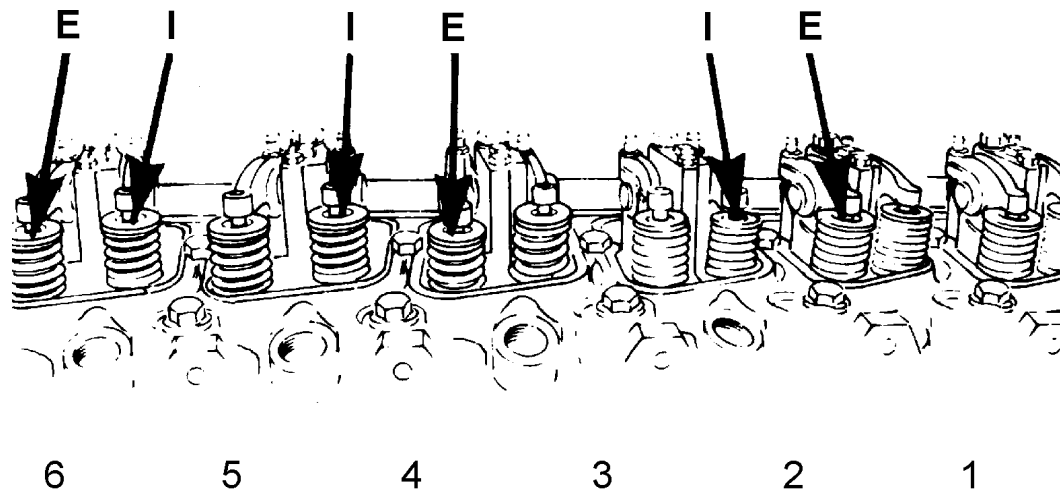

Fig. 5.27. Engine Valves
5. Mark the position of the vibration damper, rotate it by 360 [°]. Check and adjust, if necessary, the other valves as shown in Fig. 5.27 as described in item 4 above.